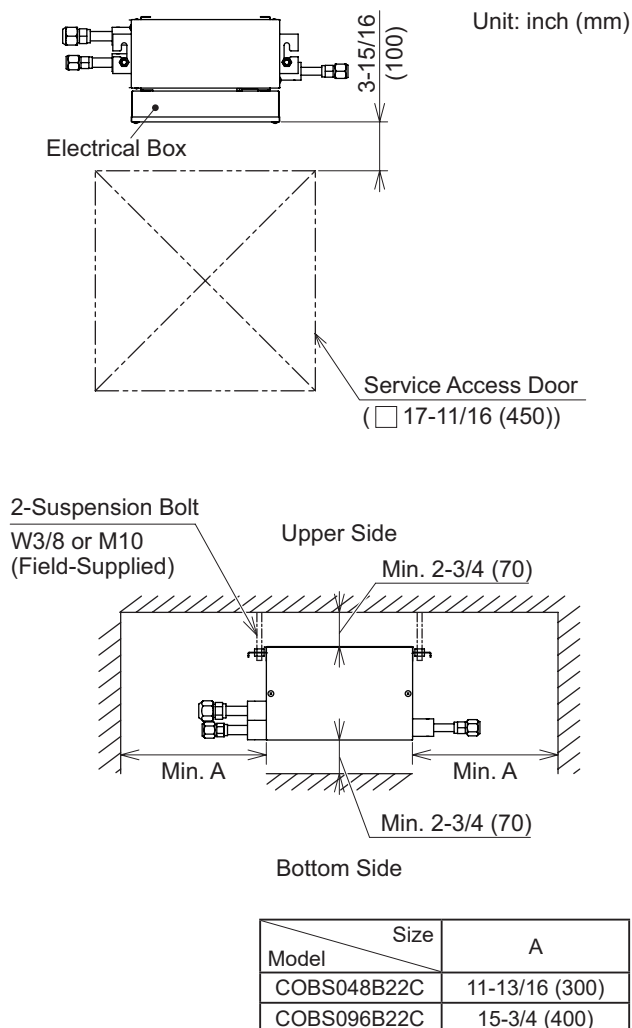

Figure 4.1 Service Space
- Install the Change-Over Box with proper clearance around it for maintenance working space, as shown in Figure 4.1 below.